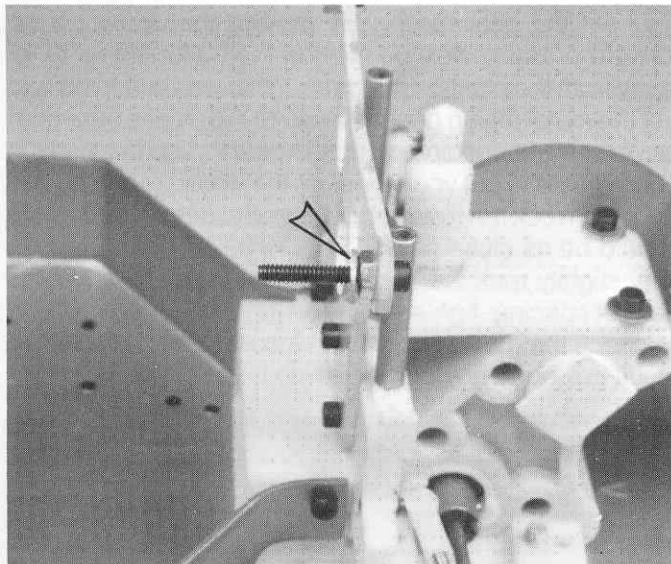

Fig. 136
□ **Fig. 136** It's time to install the rear shocks. From Bag #6-9, install one of the Allen screws through the fiberglass strut from the rear. Then, install a plain nut and an aluminum washer next. Slip a bushing in the shock, with the flange forward, and slip the shock on the screw.